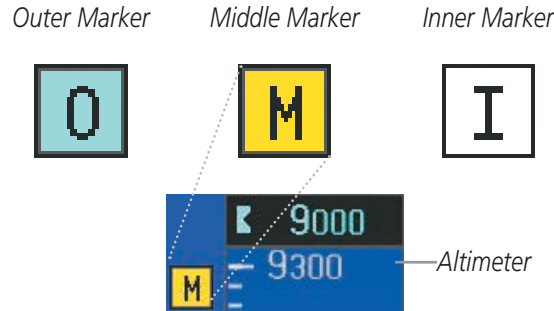

Figure 2-46 Marker Beacon Annunciations
- A flashing black-on-yellow 'TRAFFIC' annunciation (Figure 2-46) appears to the top left of the HSI for five seconds and remains displayed until no TAs are detected in the area